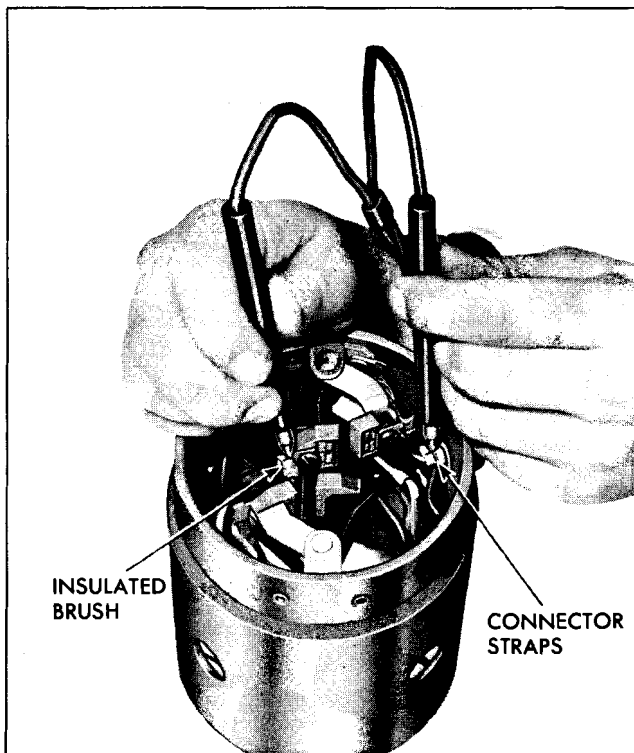

Fig. 6E-10 Testing Field Coils For Open
3. Using a 110-volt test lamp, place one lead on each end of shunt coil (Fig. 6E-10). Disconnect shunt coil ground before check is made. If lamp does not light, the shunt coil is open and must be replaced.